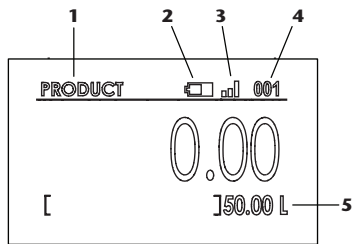
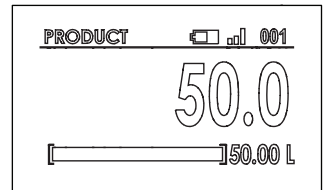

Fig. 8
Fig. 10
When a transaction is launched in the management system then the screen shows the transaction mode (figure 8) in which it can be seen the preselected amount (5). Once that the transaction is finished the screen shows for a few seconds the amount dispensed (Fig. 10).